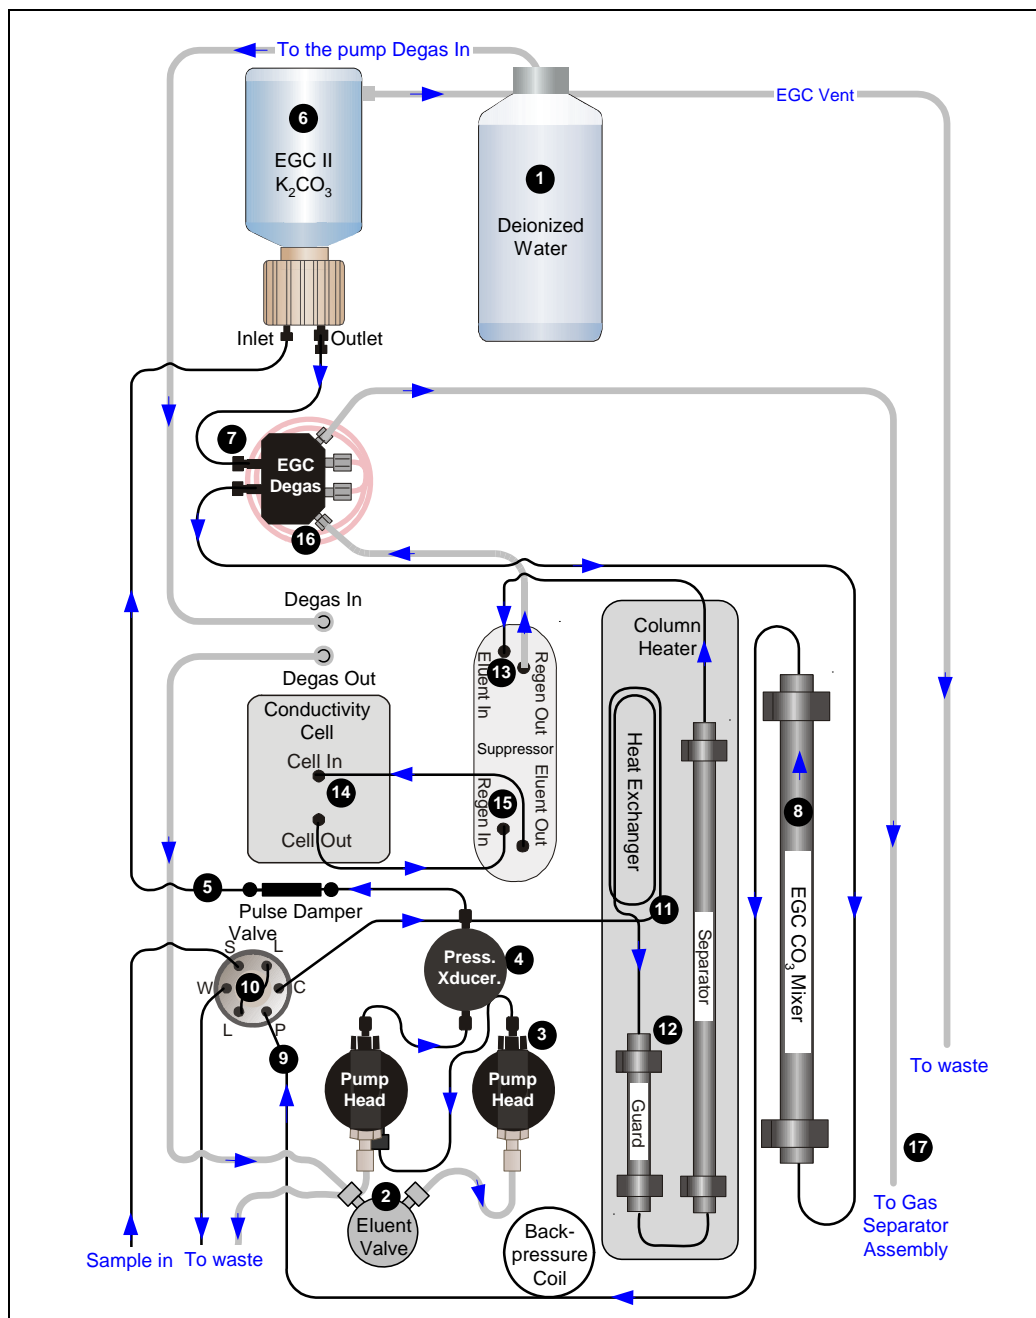

Figure 2-12. ICS-2100 Flow Schematic: Carbonate Eluent Generation
- Figure 2-12 illustrates the liquid flow path when the components required for producing carbonate eluent are installed. The required components include an EGC II K₂CO₃ EluGen Cartridge and an EGC CO₃ Mixer.
Refer to Figure 2-12 for the flow path number locations.